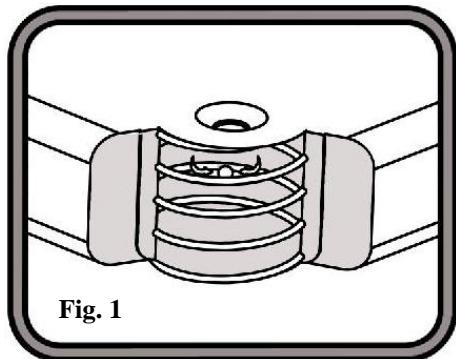
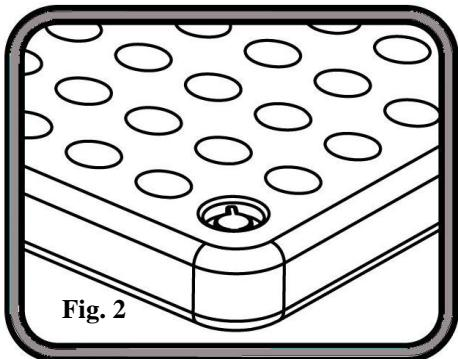

Fig. 1
Fig. 2
2. Locate the Built-in Foot Pump (**Please refer the pump's structure as Fig.1**). **And the Flocked PVC side should be upturned during the inflation.** See **Fig. 2**